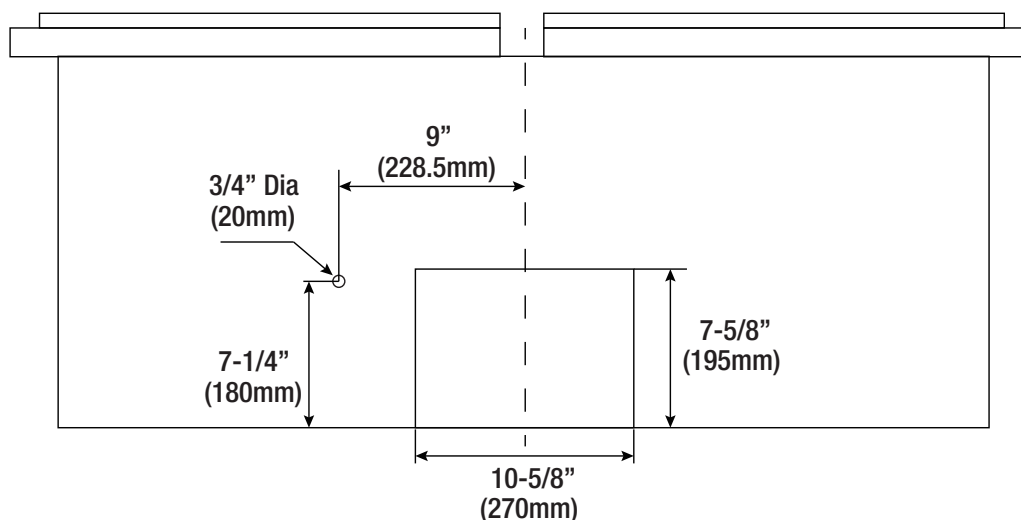

Fig.7
- If using an existing venting system, ensure that the openings in the cabinet bottom for the damper and for power access are in appropriate locations and are of appropriate sizes, see Fig. 7.
- If this is a new installation, cut out openings for the damper and for power access in the cabinet bottom, see Fig. 7.